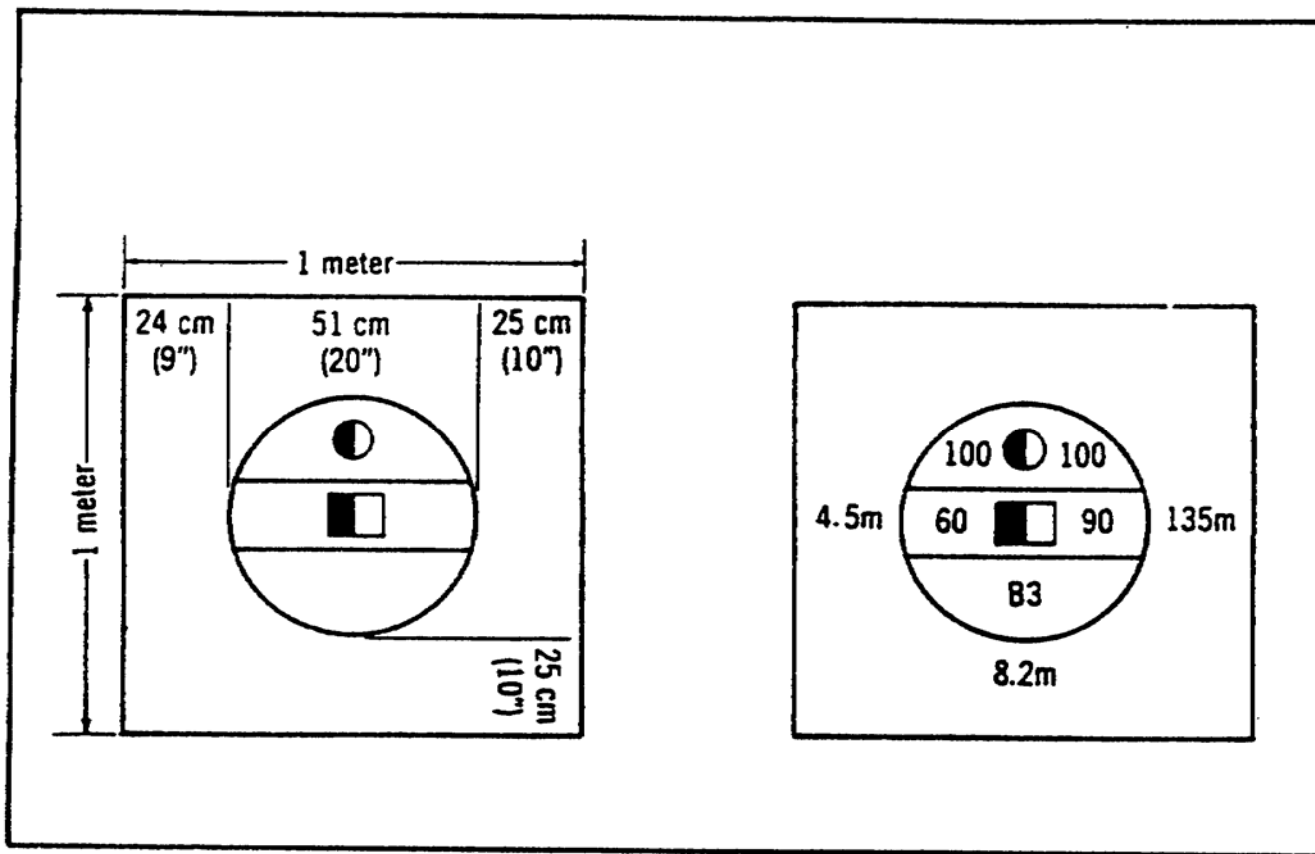
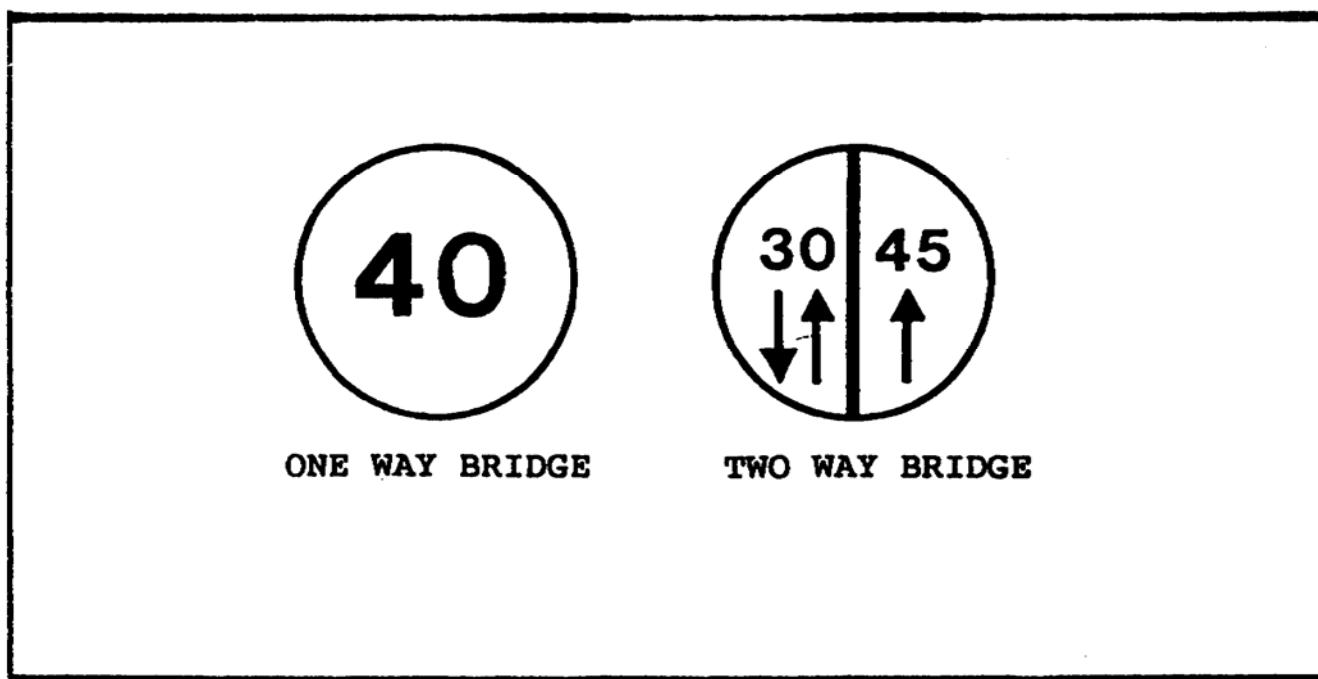
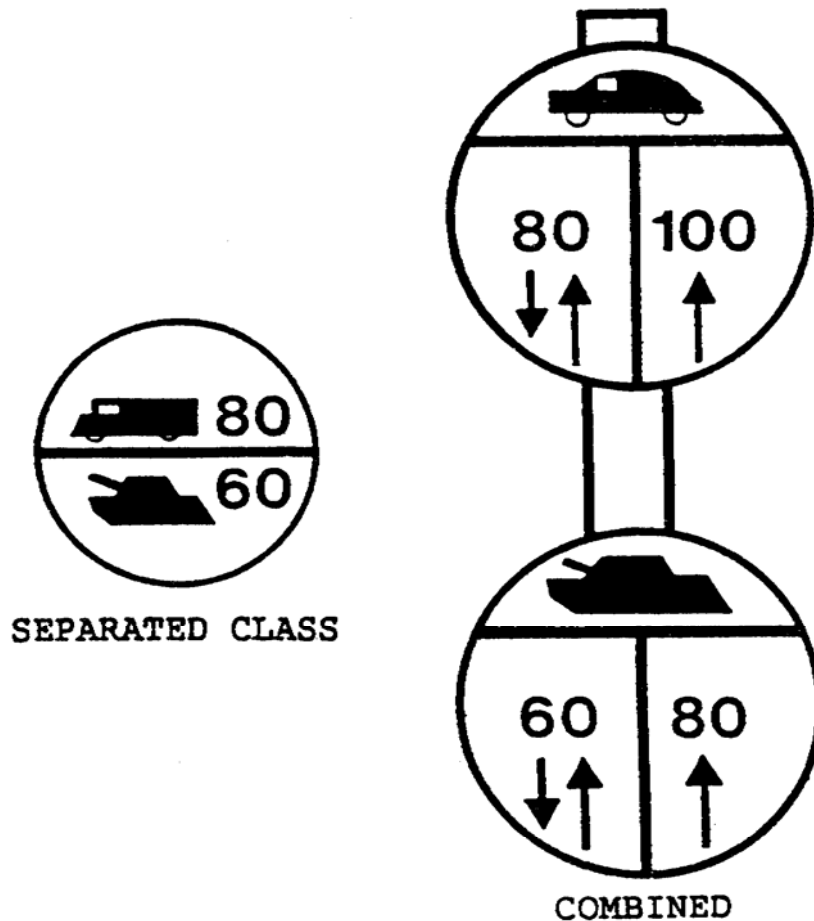

FIGURE 1-13. FULL NATO BRIDGE SIGN.
FIGURE 1-14. NORMAL CIRCULAR BRIDGE SIGNS.
FIGURE 1-15. SPECIAL CIRCULAR BRIDGE SIGNS.
(2) Classification numbers for both roads and bridges are usually located at the bridges. This is because the bridge is normally the weakest point on the road. Bridges (and rafts) have circular signs indicating the classification and other information. The circle, or disk, is yellow/orange with the information indicated in black. Figure 1-13 illustrates the most common symbols. More detailed descriptions are in FM 19-4 Appendix H (See Appendix A) and FM 5-36.
(3) A full NATO bridge sign will be a large yellow rectangle, with black symbols. In the center will be a large circle divided into three parts. In the upper third of the circle will be a smaller circle. To the left (shaded) side of the circle is the two-way wheeled classification. On the right (unshaded) is the one-way wheeled classification. A small rectangle is centered in the middle third of the circle. This indicates the same information for tracked vehicles. In the bottom third of the symbol is the bridge serial number. The width of the traveled way of the bridge is placed below the large circle. To the left of the circle is the overhead clearance and to the right is the overall bridge length. This type of signing is normally only posted on major double-flow bridges.
(4) In many cases, bridges will be marked with standardized circular bridge signs. These are yellow circles with black numbers. There are two types of such signs, normal and special. The engineers determine what type of sign will be used. Figure 1-14 illustrates normal signs and Figure 1-15 special signs.